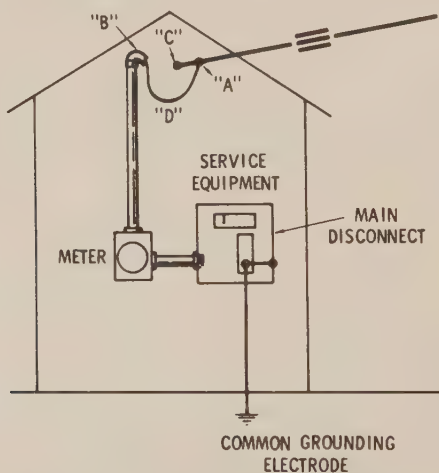

Fig. 18. A typical service installation.
Fig. 18 shows service entrances other than a mast type. Where the proper height can be obtained without a mast,
The service-entrance conductors extend from point A in Fig. 18 to the line side of the main disconnecting means in the service equipment. Notice that the service-entrance head (B) is higher than the point of attachment of the service drop. This is covered in **Section 230-54 (Connections at Service Head)**. If it is not possible to install the service head higher than the point of attachment, there are other alternatives. However, the basis of all this is to keep water from running into the service raceway and equipment. Notice the drip loop (D) for this purpose. I often suggest a very small notch in the insulation at the bottom of the drip loop. This will break the syphoning effect. The newer plastic insulations do not adhere to the conductors as the old type rubber insulation did, and this creates syphon effects.